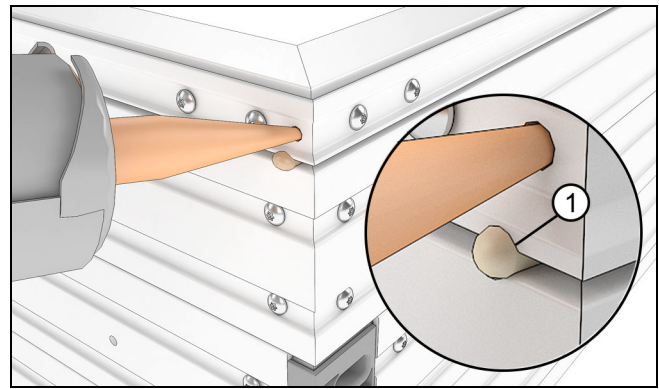

Figure 50
9. Inject the head jamb corner keys until there is squeeze out showing in the inspection hole. See Figure 50.